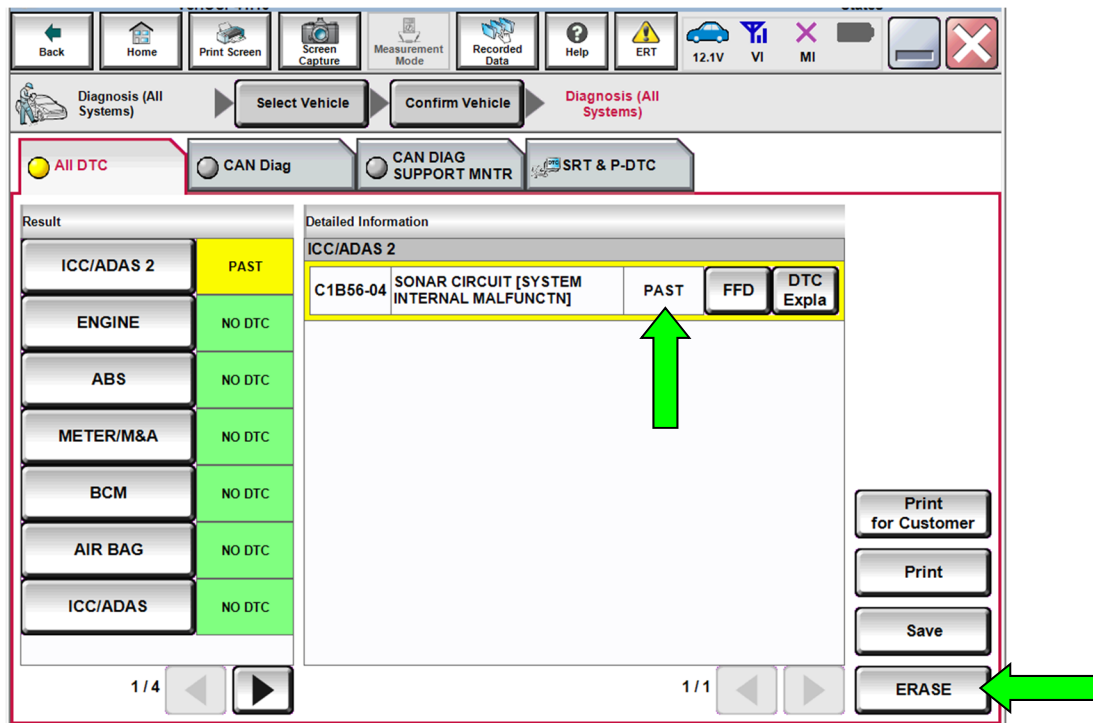

Figure 42
69. Confirm DTC C1B56-04 is displayed as **PAST** (not **CRNT**). See Figure 42.